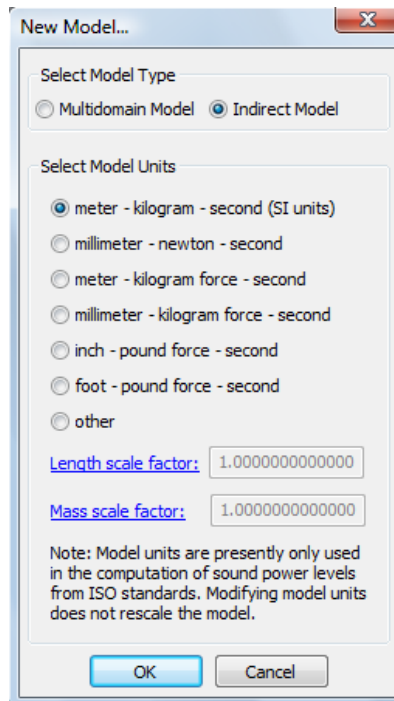

Figure A.28 New Model Selection Window.
- In the main menu select: **File** → **New Model**. The window in Figure A.28 will then appear.